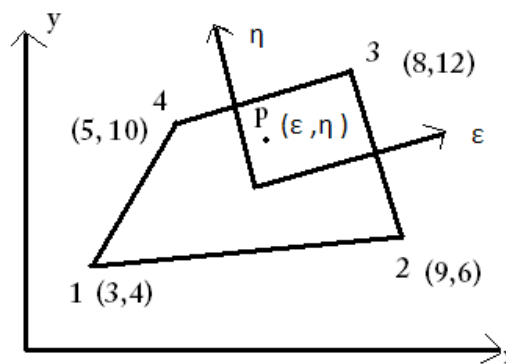

fig.5.
- (b) Examine the Cartesian coordinates of the point P which has local coordinates $\epsilon = 0.8$ and $\eta = 0.6$ shown in the fig.5.